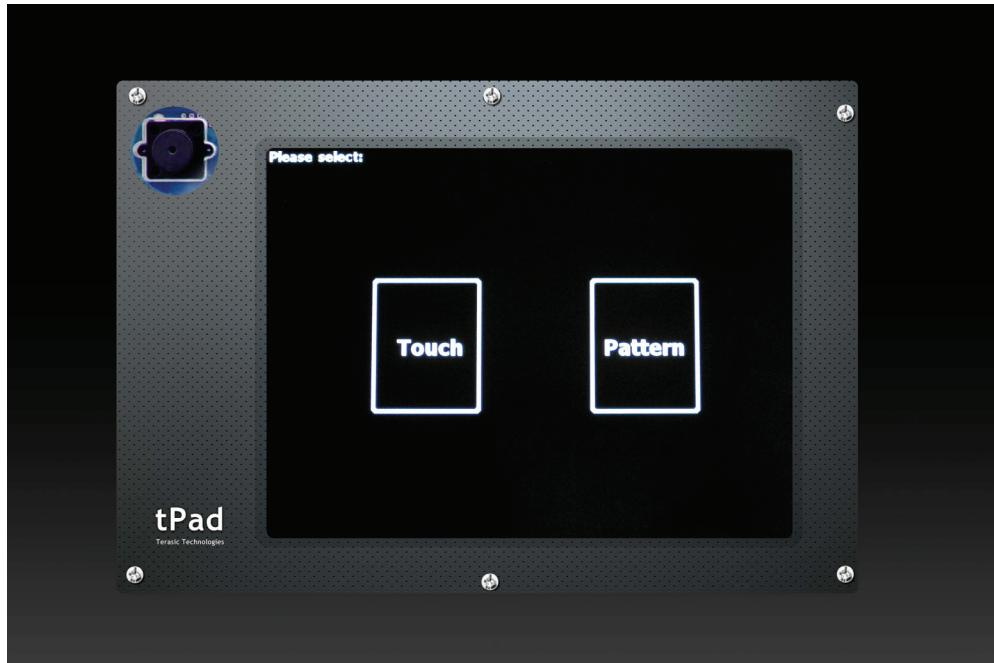
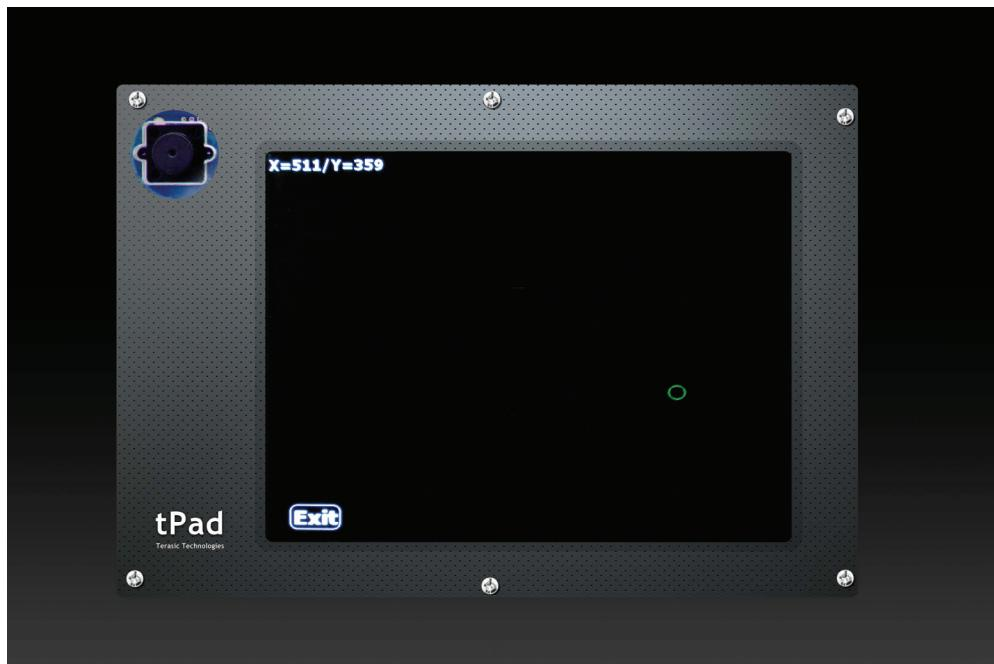
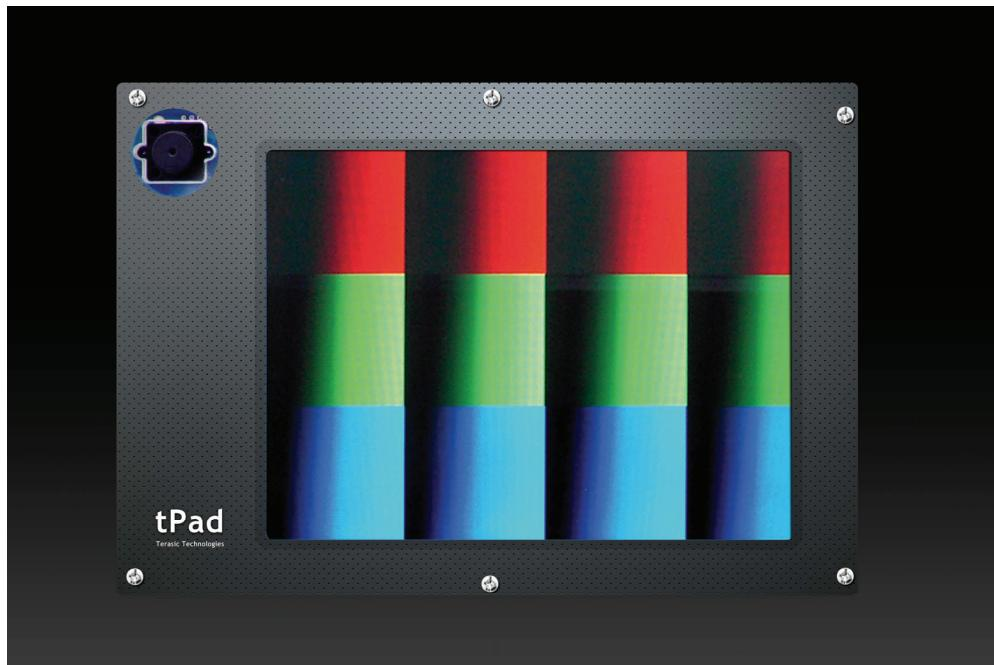

Figure 4-4 Main interface of the tPad Starter demonstration
Figure 4-5 The tPad Starter Touch sub item
Figure 4-6 The tPad Starter Pattern sub item
- From on the touch panel, tap any icon of the main interface and start the experience, as shown in **Figure 4-4**, **Figure 4-5** and **Figure 4-6**